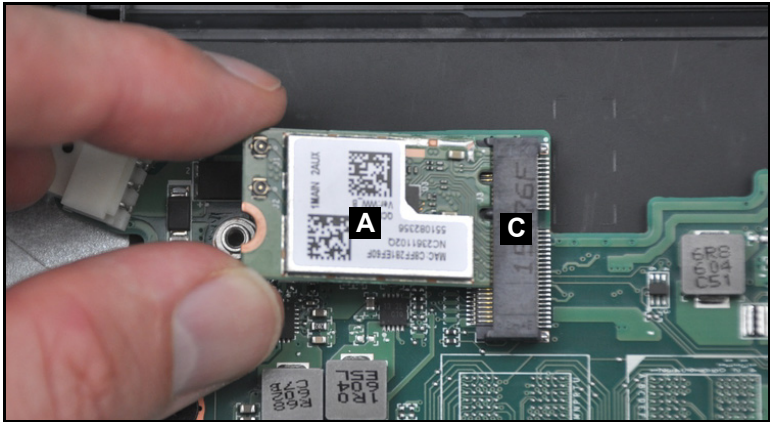

Figure 3-27. WLAN Module Removal
4. Remove the WLAN module (A) from the mainboard connector (C) (Figure 3-27).